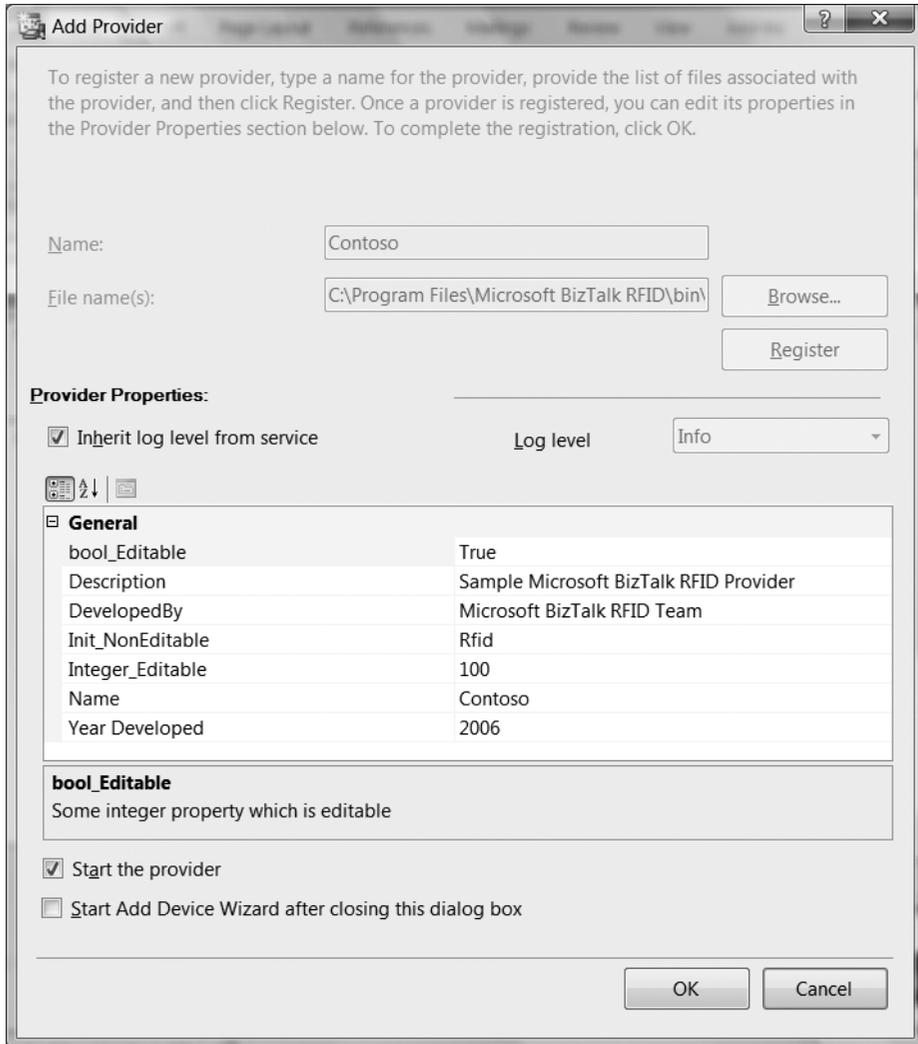

Figure 3-5. Adding the new Contoso provider
5. Click the Register button to load the provider into BizTalk RFID. The New Provider dialog should now resemble Figure 3-5. Note the ability to configure settings at a provider level (however, the Contoso provider contains many “fake” configuration properties simply for the sake of demonstrating how to implement such properties).